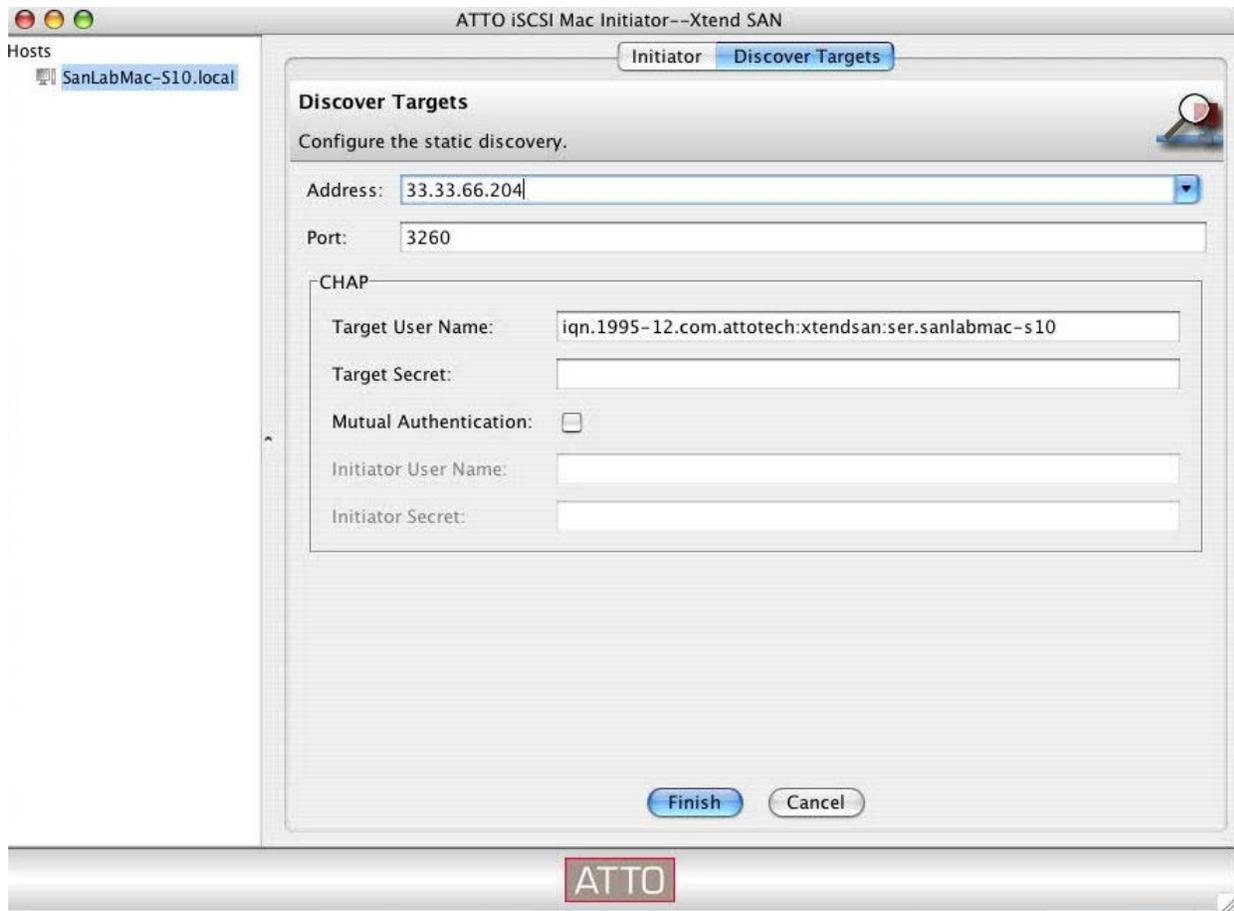

Figure 26 Add static IP address
- b.** Add the static IP address of the mpx iSCSI port in the Address field and then select **Finish** (Figure 26).